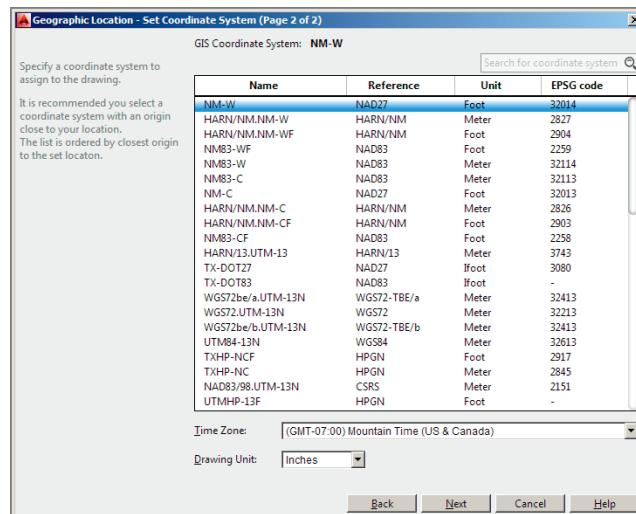

FIGURE 15.3 Choosing a coordinate system
- Click the Next button at the bottom of the Geographic Location dialog box. Select the first item in the list of coordinate systems, NM-W in this example. This system has its origin point closest to the chosen site (see Figure 15.3).